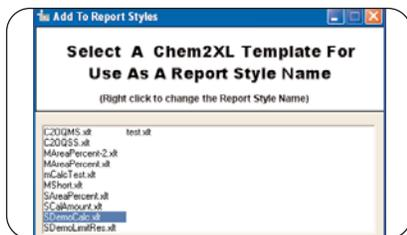

Figure 4
Step 4: Back in ChemStation, add the template to the ChemStation report styles by selecting *Add Template to Styles* under the Chem2XL menu (figure 4).